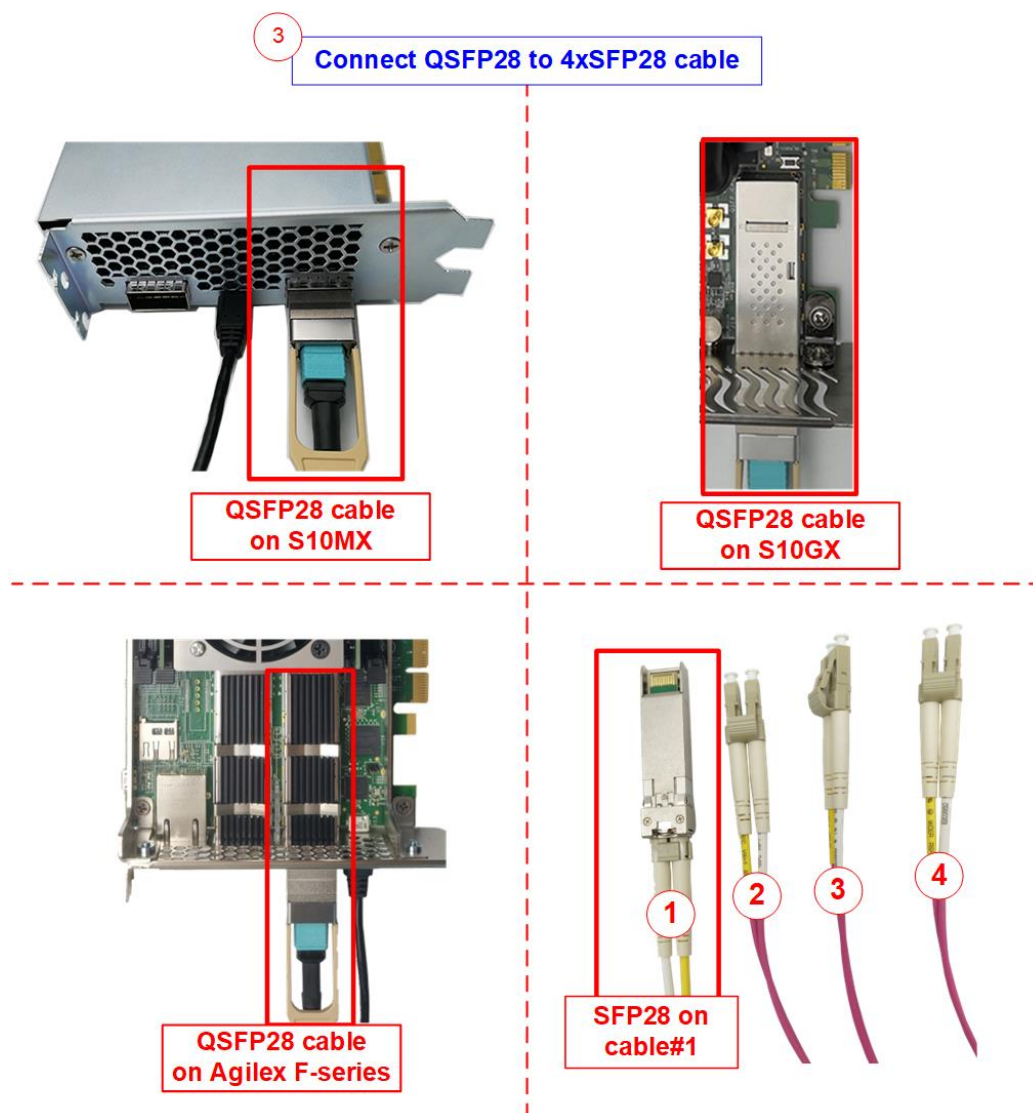

Figure 2-5 25G Ethernet connection
- Establish a connection between the FPGA board and the PC by connecting a 25G Ethernet cable. Insert a QSFP28 to 4xSFP28 cable between the FPGA board and the PC. Use SFP28 no.1 to connect to QSFP28, as shown in Figure 2-5.